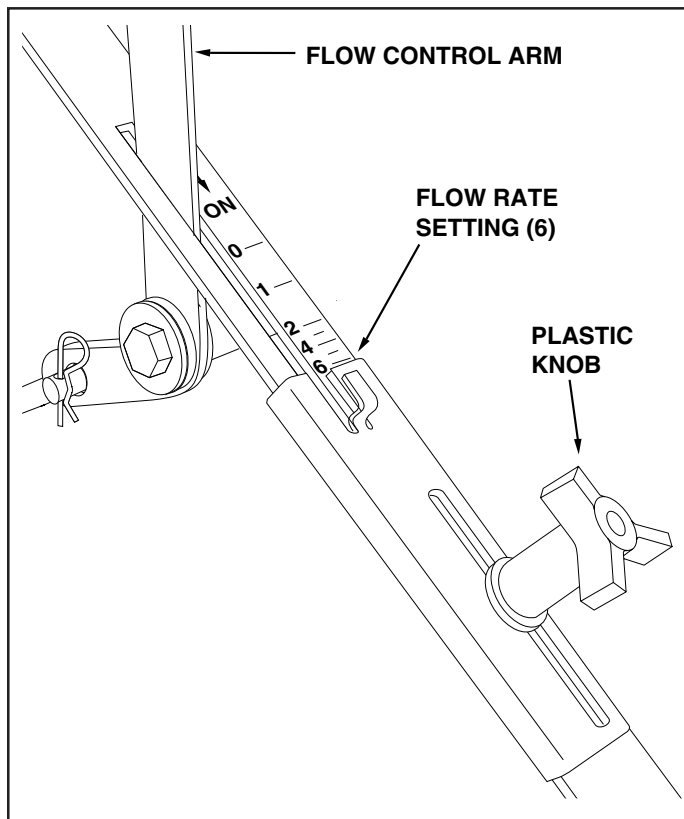

FIGURE 7
2. Loosen the knob and adjust the flow control gauge to the recommended setting. Retighten the knob. See figure 7.